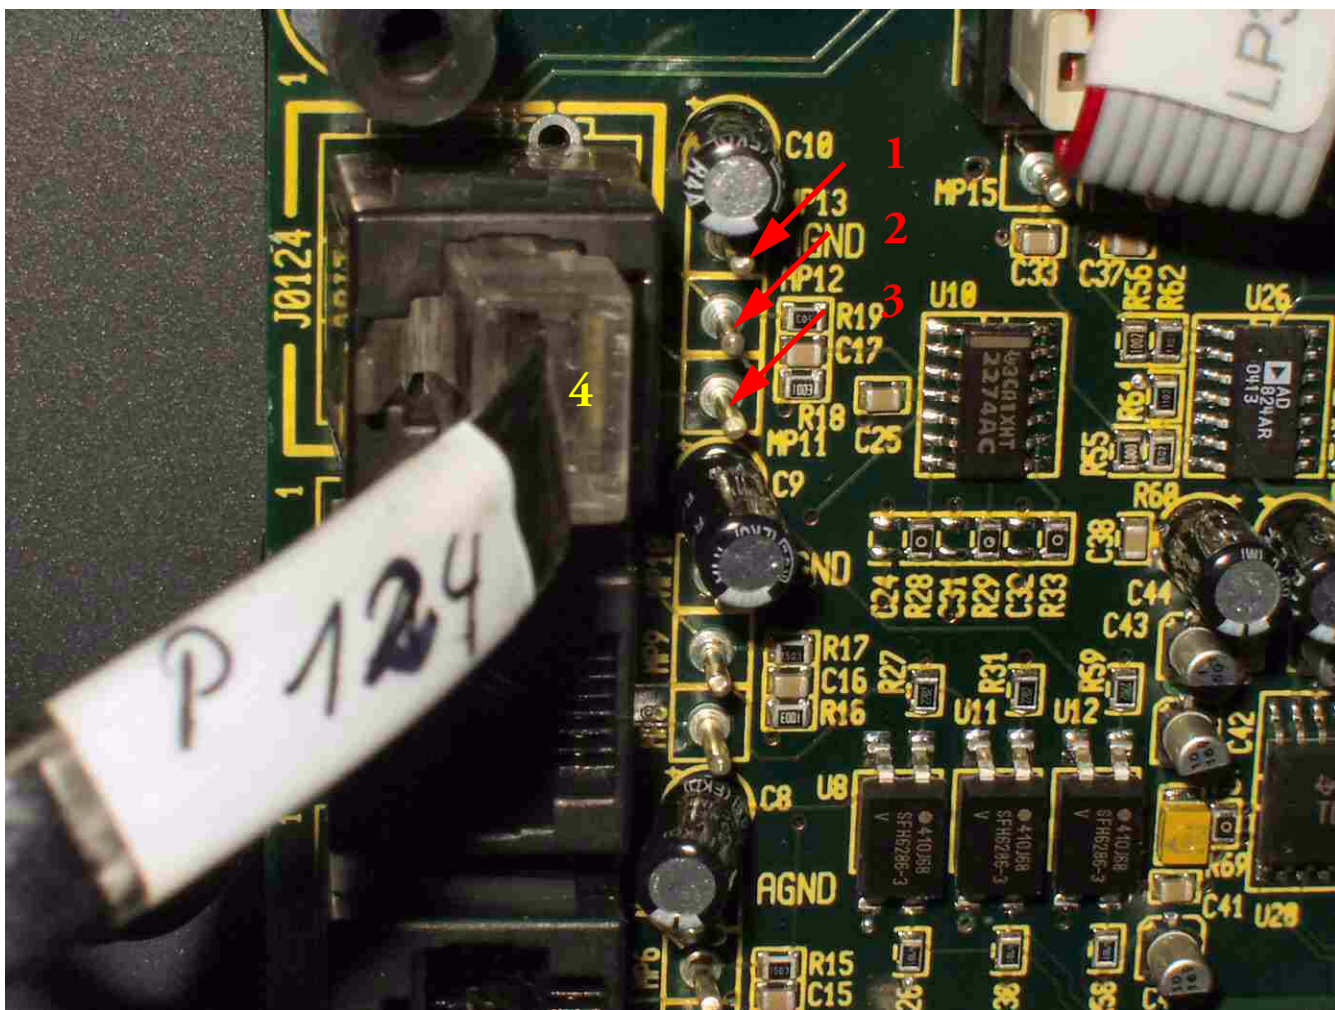

Figure 7-30. Measurement Points on Power Distribution Board
The Penning gauge is controlled via the Power Distribution board. See Figure 2-63 and **4** in Figure 2-63. Three measurement points (MP 13, MP 12 and MP 11) relevant for the Penning gauge are located on this board and shown as **1**, **2** and **3** in Figure 7-30:
- the value between ground (GND, that is MP 13) and MP 12 is the actual voltage value in V read out by the Penning gauge. This output voltage represents a pressure (the actual vacuum status) and can be checked on the power distribution board. See Figure 7-30.